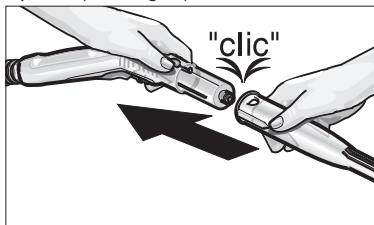

Fig. 2: Attaching accessories to the steam gun (C1)
- Attached the required accessory – spot nozzle (E1), hand nozzle (F1) or floor nozzle (G1) – to the steam gun (C1) by pushing the tubular end of the accessory onto the steam gun (C1). Push the accessory onto the steam gun as far as necessary for the release button (C2) on the steam gun to lock into place (see Fig. 2).